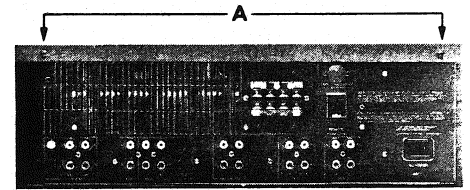

Fig. 2.1
2.1 Removing the upper cover (Fig. 2.1)